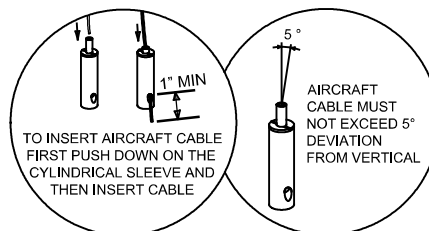

Fig. 3
5. Remove top covers, lift the section and attach the loose ends of the two aircraft cables to the cable gliders (Fig. 3).
14. Re-check the level of the entire fixture and adjust aircraft cables as nessesary. Trim excess aircraft and power cables (Fig. 3).